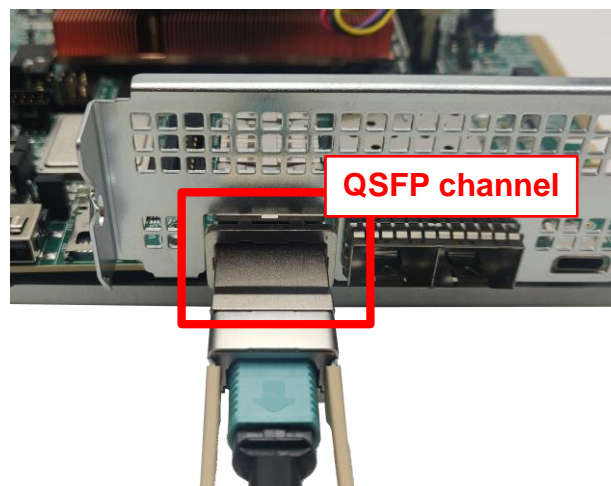

Figure 4 100G Ethernet Connection by QSFP28 transceiver and MPO to MPO cable
- 3) Connect the 100G Ethernet cable between FPGA board and PC. For VCK190, insert a 100G QSFP28 transceiver with MPO to MPO cable to the QSFP connector on FPGA board, as shown in Figure 4.